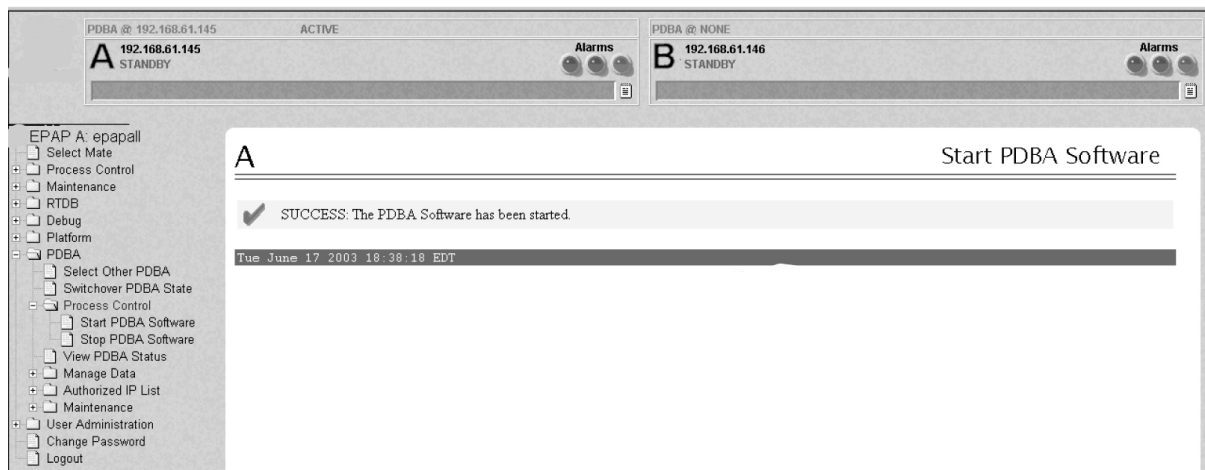

Figure 35: PDBA Started
6. When the PDBA software has been started, the window shown in Figure 35: PDBA Started displays, and within moments the banner will show the PDBA status as ACTIVE or STANDBY.